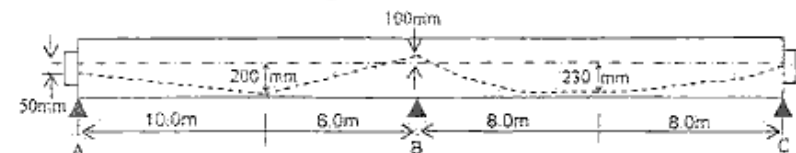

Figure 1
5. A continuous prestressed concrete beam with bonded tendons is shown in figure 1. The cable consists of two linear profiles in the first span AB and parabolic profile in second span BC. Analyze the beam for the effect of prestressing alone, using equivalent load method. Consider a prestress force of 1500 kN at the anchor points and no loss due to friction. 14